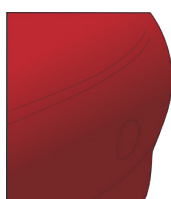

Figure 17
- › The application is complete. (FIG. 17)